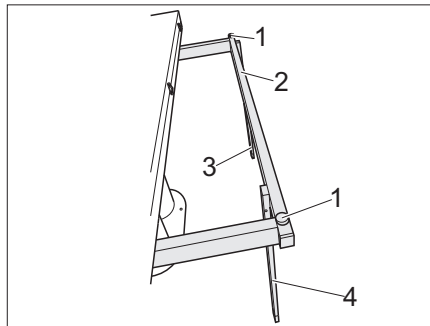

Fig. 108 Move legs into vertical position
- Pull out the table base (Fig. 108,2).
- Move legs (Fig. 108,3 and 4) into vertical position.
- Use the two adjusting screws (Fig. 108,1) to adjust the table-top to the desired height.